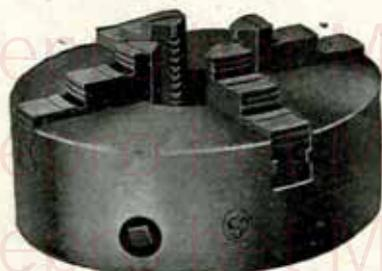

FIG. 20
**AVEC 1 JEU DE 4 GRIFFES FIG. 20 OU 21**
**AVEC 2 JEUX DE 4 GRIFFES FIG. 20 ET 21**